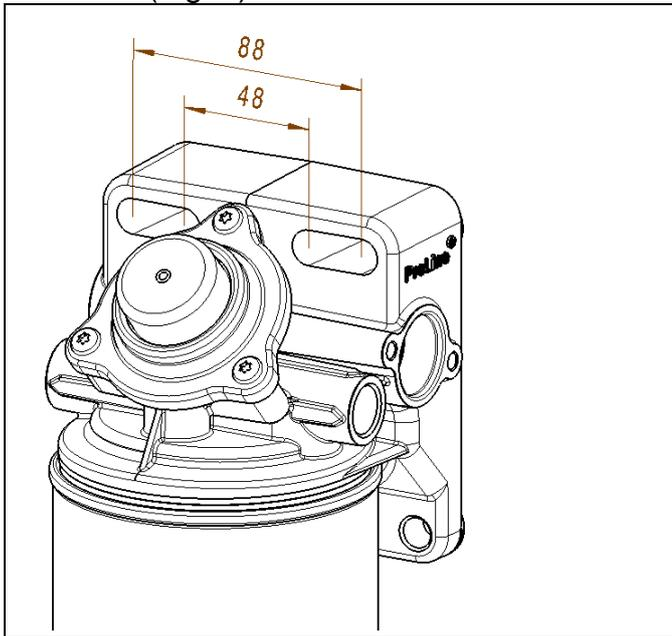

Fig. 2 Slot spacing 50 – 87 mm
- Locate the hole spacing (if holes are already available) or drill the necessary holes (Fig. 2).